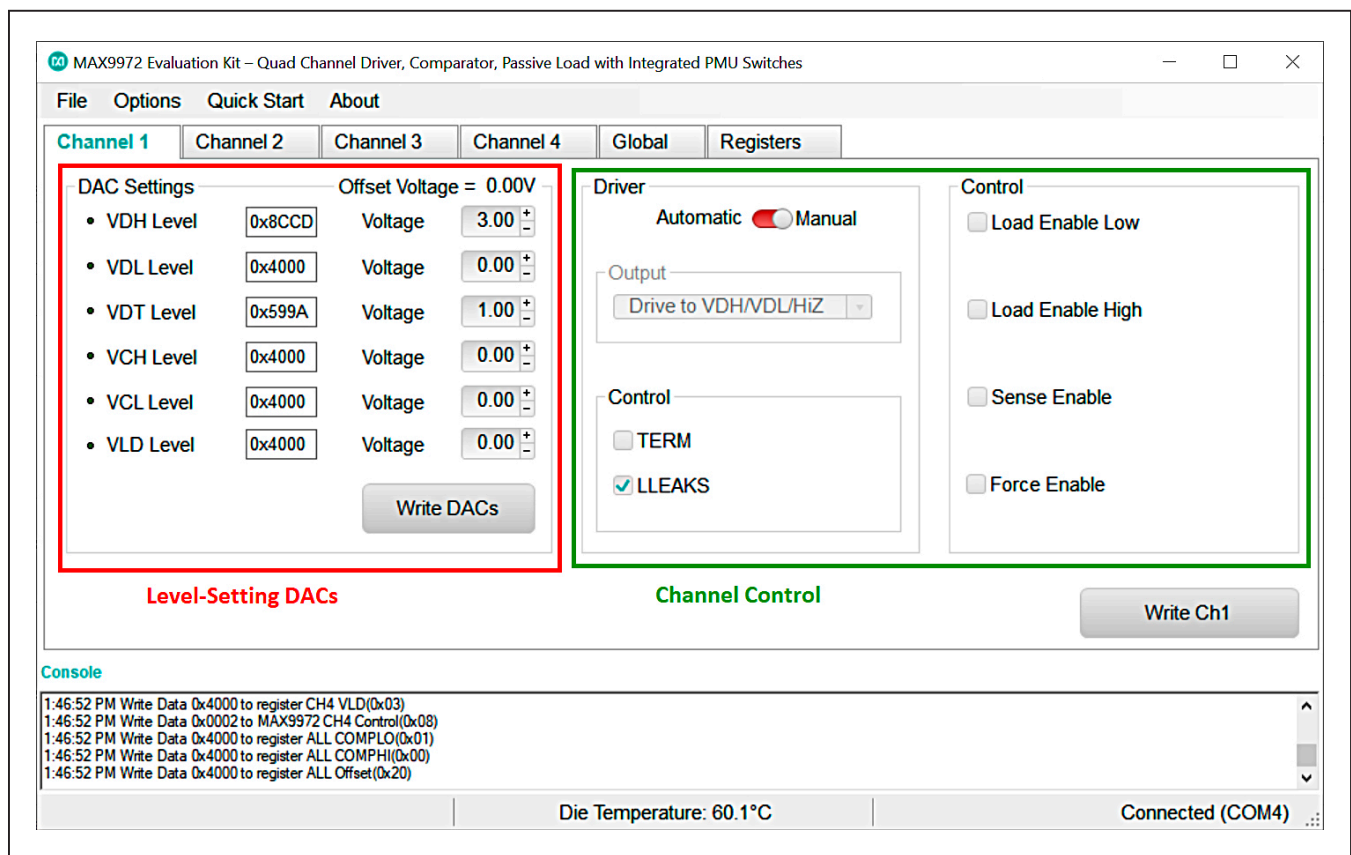
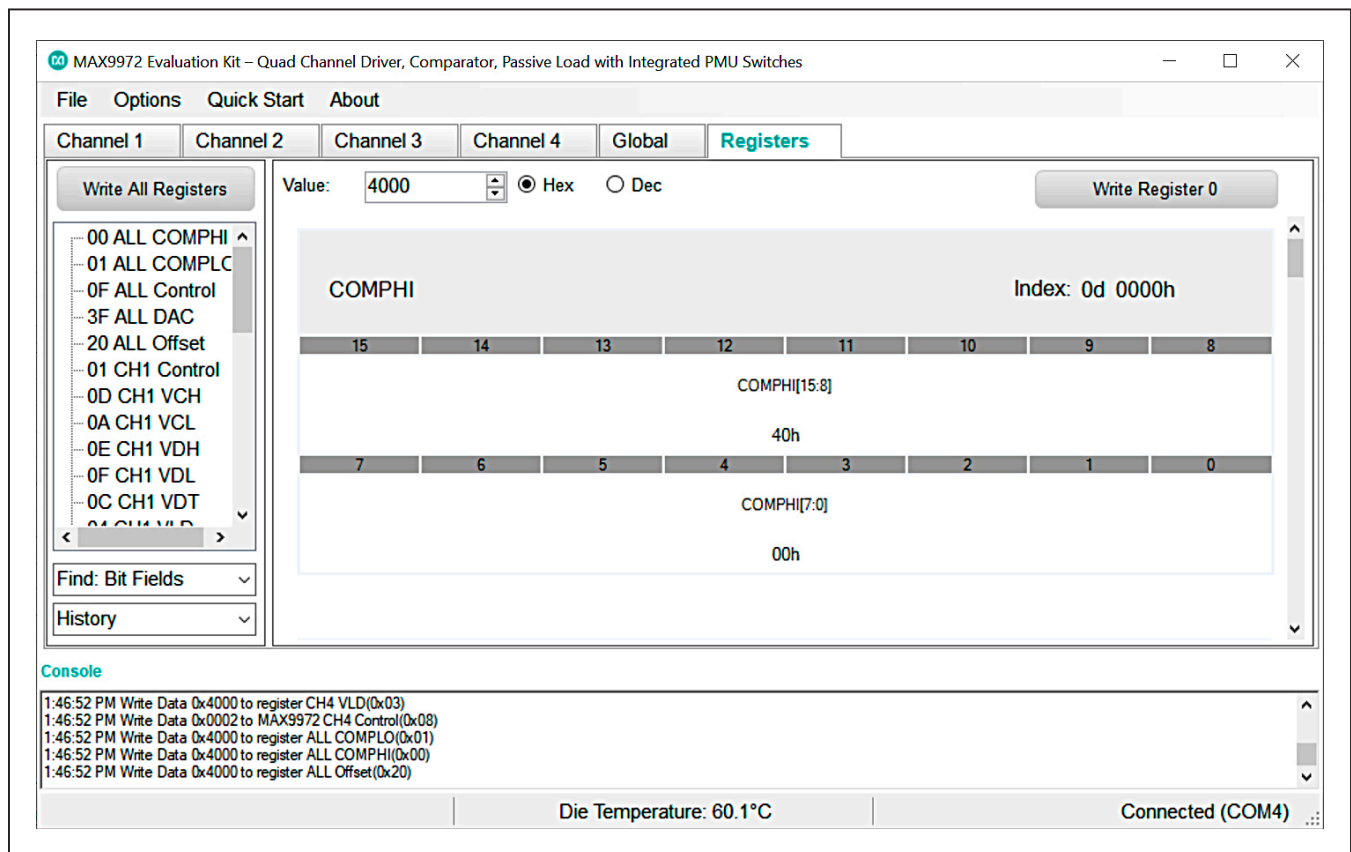

Figure 2. MAX9972 EV Kit Software Window (Level-Setting DACs and Control Register)
Figure 4. MAX9972 EV Kit Software Window (Register Tab)
- 7) Select the COM port and click on the **Connect** button. The MAX9972 GUI should indicate EV kit connected in the status bar (outlined in blue), as shown in Figure 2.
Channel 1, Channel 2, Channel 3, and Channel 4 are identical and control each of the MAX9972 channels independently. These tabs contain **Level-Setting DACs** and **Channel Control**, as shown in Figure 2. After setting DAC levels and control signals, click on the **Write Ch_** button to load data into the MAX9972 device through the SPI interface.
There are two methods for configuring the MAX9972 and MAX5734 devices. The first method is through the graphical user interface as shown in Figure 2. The second method is through the **Registers** tab as shown in Figure 4. The **Registers** tab allows execution of serial commands manually. The **Registers** tab can also be used as a debug tool because it is capable of writing to every register of the MAX9972 and MAX5734.